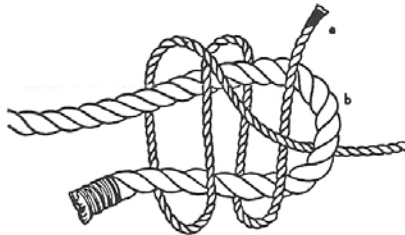

FIGURE 29 - DOUBLE SHEET BEND
c. Double Sheet Bend - The double sheet bend (figure 29) is better than the single sheet bend for joining lines of equal or unequal diameter, joining wet lines, or for tying a line to an eye. It will not slip or draw tight under heavy loads. To tie a double sheet bend, first tie a single sheet bend, but do not pull it tight. Then, take one extra turn around both sides of the bight (b) (figure 29) in the larger line with the running end (a) of the smaller line and finish by passing the running end under the smaller line and over the larger line just as for the single sheet bend.